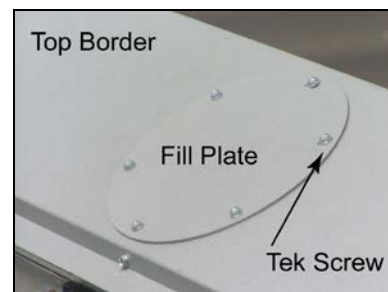

Figure 5: Installed Border Cap
29. Apply silicone around the eyebolt holes in the top border. Place the border caps in the holes and Tek screw them into place. Refer to **Figure 5**.